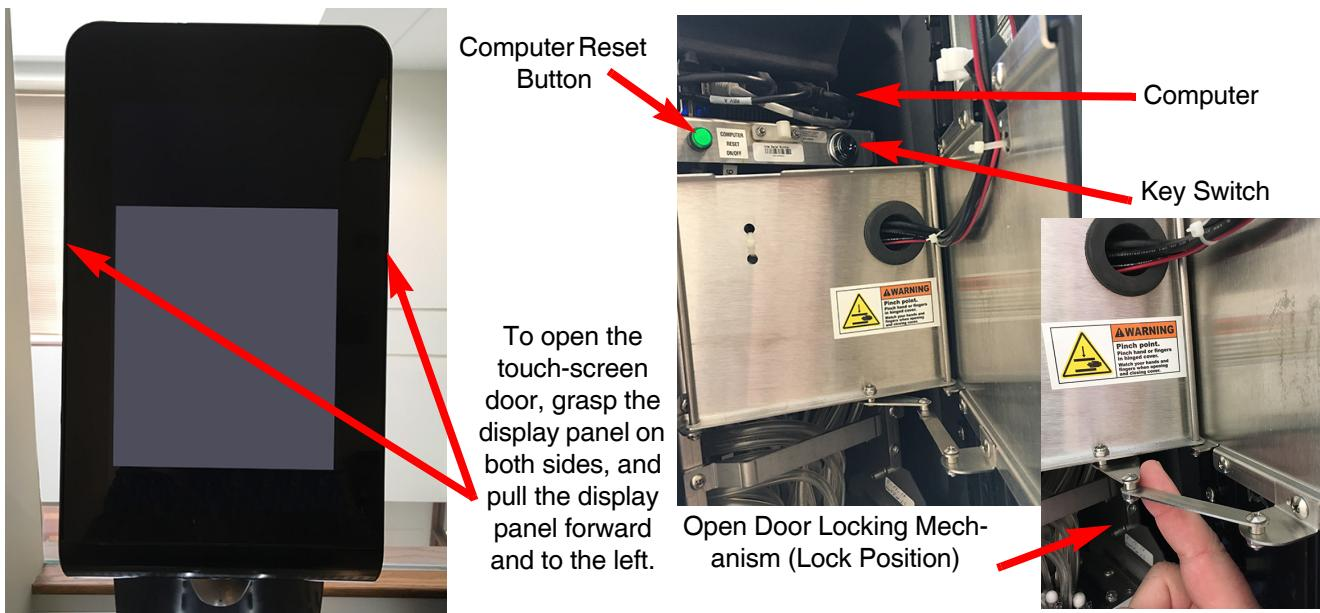

Figure 10.
2. If the display does not come on, open the touch screen door by placing both hands on the display screen and pulling forward. See Figure 10, left.
3. With the door in the 90° position locate the **open-door locking mechanism** (see Figure 10, lower right) and pull the mechanism out to stabilize the opened door. Then, move the display panel to the left, away from the unit.
4. With the door open, on the inside of the unit, locate the **key switch** and turn it to the ON position. (See Figure 10, center). If the unit does not power-up, refer to "Troubleshooting" on page 42.